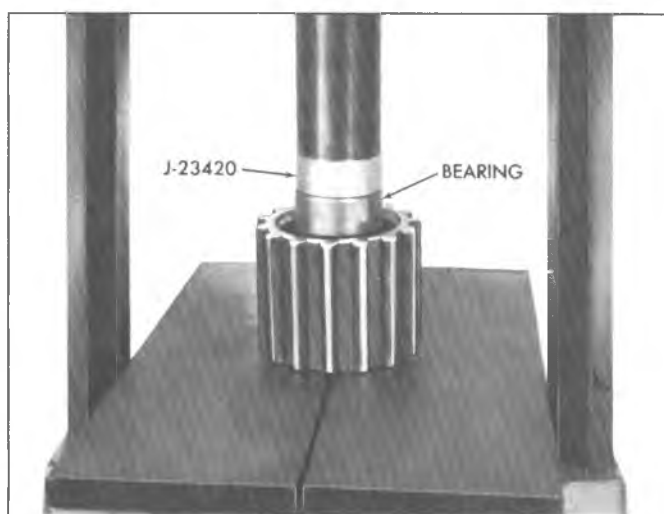

Fig. 8D--Installing Rear Output Shaft Pilot Bearing
1. Press new pilot bearing in bore of rear output shaft with bearing identification facing out using Tool J-23420 as shown in Figure 8D.